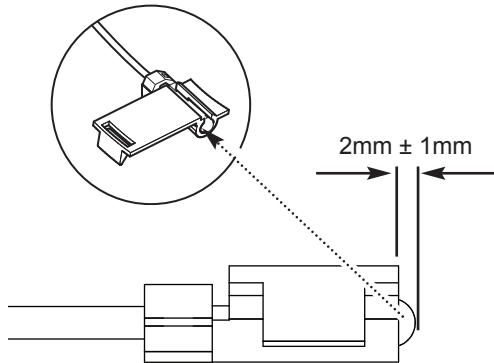

Fig. 6
**NOTE:** To ensure effective operation the end of the IFOS sensor must be positioned to protrude 2mm ± 1mm from the body of the clip (Fig. 6).